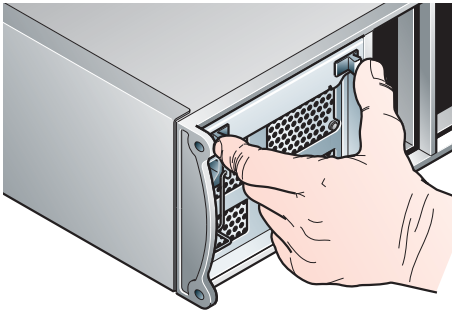

Figure 2a Fitting/Removing a PSU Module
2. Squeeze the two latches on the PSU handle together and open the handle (Figures 2a & 2b) to cam the PSU/Cooling module out of the enclosure.